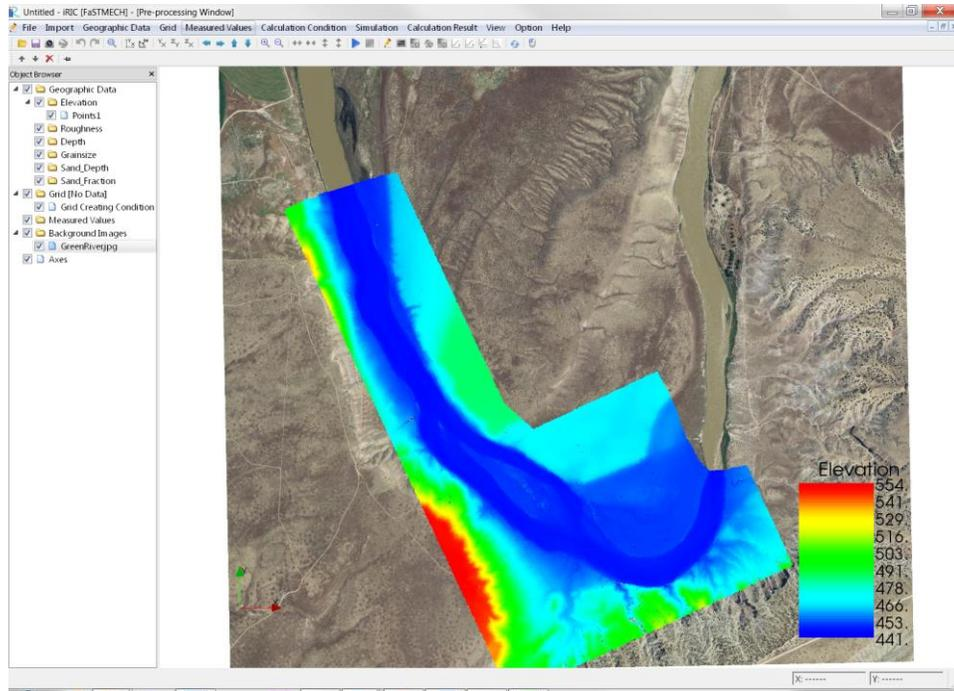

Figure 4. Addition of the background imagery.
- Import an image to place in the background of the data. Background images can be imported through the **Menu Bar** by selecting **Import ► Geographic Data ► Background Image**. In the Open Image dialog select the **Green River.jpg** file.. The image will be displayed in the canvas (Figure 4). To turn the image off, uncheck **Background Images** in the **Object Browser**.